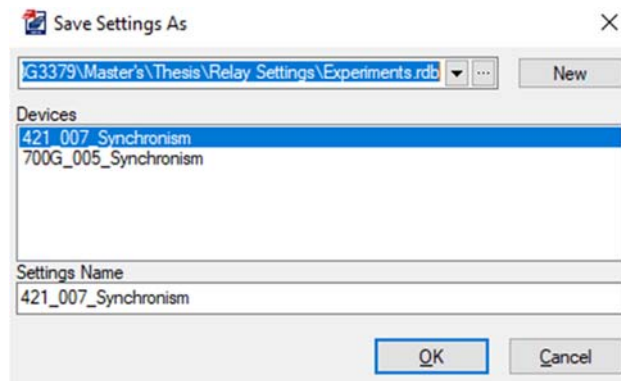
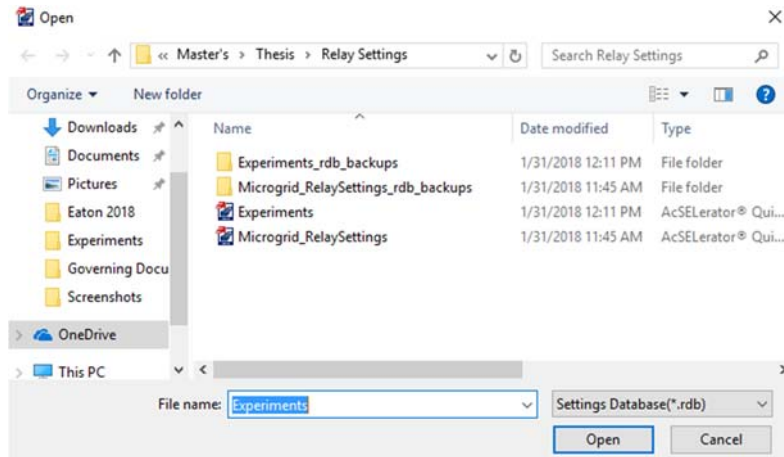

Figure 53: Saving SEL-421 Settings
Figure 54: Choosing Location for New SEL-421 Settings Database
39. Save this relay settings database file (File, Save As; New if you do not want to use an existing settings database) in a location where it may be reused in future experiments (Figure 53 and Figure 54). Next, create a Settings Name for this settings file.